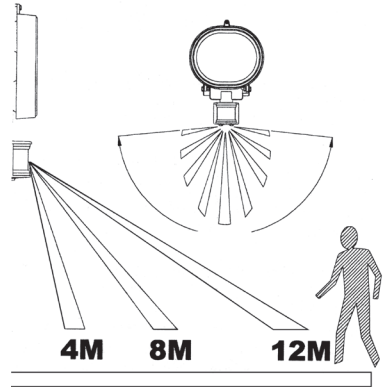

Fig.1A
- The best height to mount the light is 1.8–2.5 m above the detection zone (Fig. 1A).